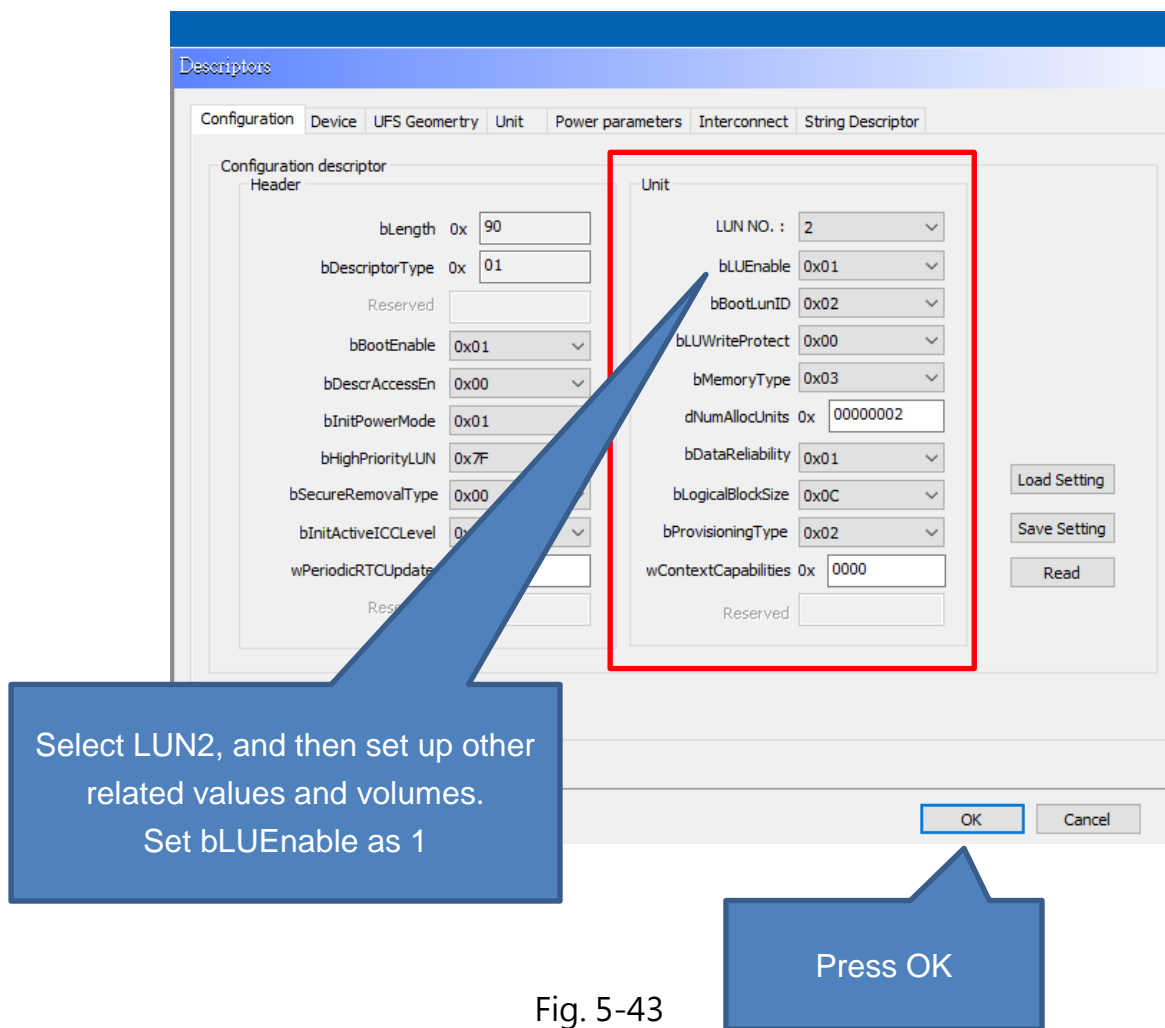

Fig. 5-43
Step 1. Open the software and set up the configuration descriptor in the **Config** window. (Fig. 5-43)